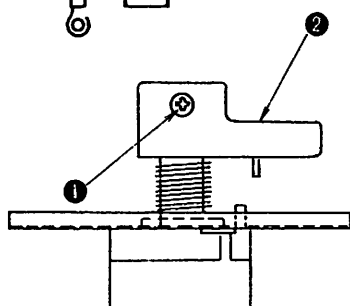

Fig. 5-6
8) Loosen the potentiometer link setscrew (Fig. 5-6 ①) of the sensor potentiometer set, then remove the potentiometer link (Fig. 5-6 ②).